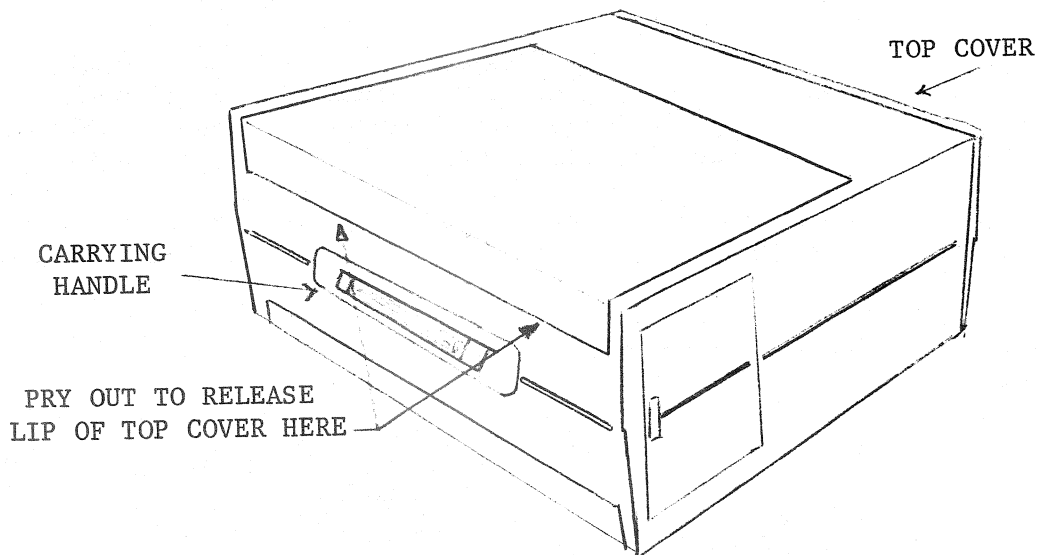

Figure A-2. COMPAQ Lid Removal
Step 2 - Stand in front of the computer, and position your arms and hands over the rear top edge, as shown in Figure A-2.